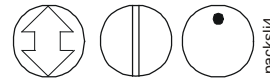

Figure 2: Typical Damper Shaft End Icons
4. Locate the damper position using typical marking on the end of the damper shaft (see Figure 2).